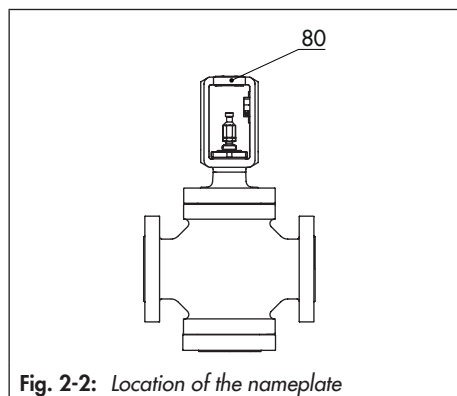

Fig. 2-2: Location of the nameplate
The nameplate (80) is affixed to the yoke of the valve (see Fig. 2-2).